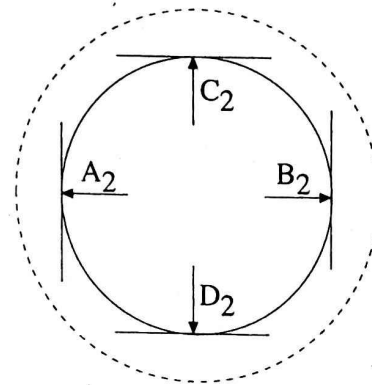

Fig. 2.6
- (iv) To measure the internal diameter of the tube, the outward projected points of the jaws P and Q of the callipers (fig. 2.6) are introduced inside the given tube. The jaws are opened till projected points touch the diametrically opposite walls of the tube. The reading is taken. This is repeated 5 times by rotating the tube about its axis.